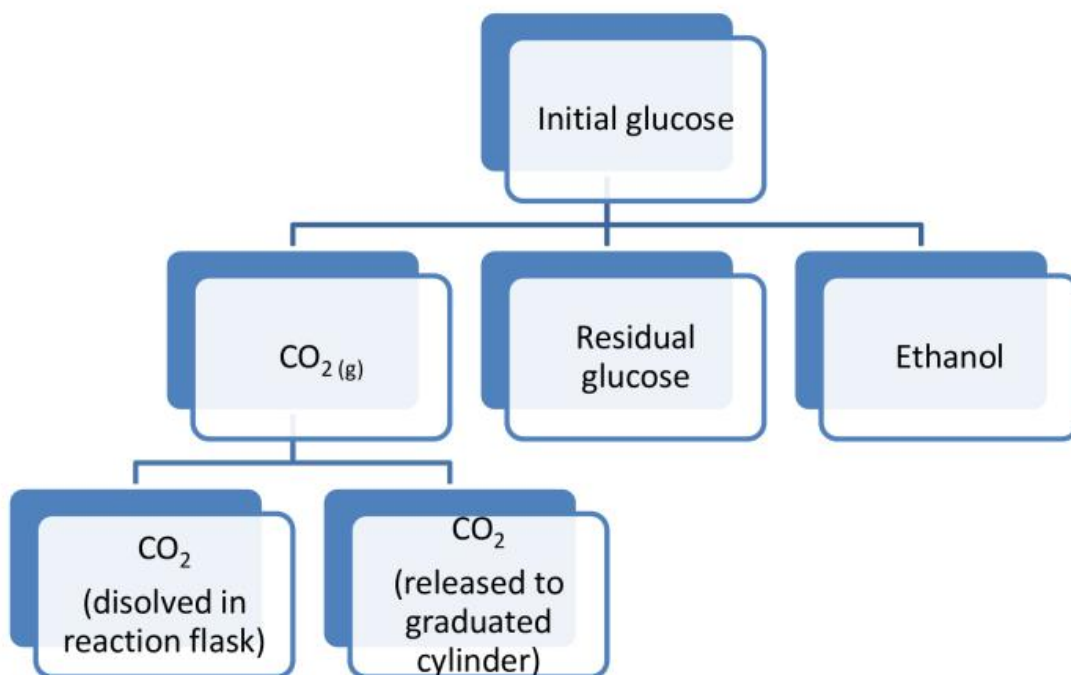

Figure 7
G.3. Draw a cross (X) on the curve of **GRAPH A** at t = 40 min of fermentation.
*The initial sample of glucose was partially metabolized after 40 min of fermentation. The glucose that is not metabolized remains in the reaction flask solution and is called "residual glucose". The metabolized glucose was transformed into gaseous product CO2 and ethanol. Most of gaseous product CO2 was transferred to the graduated cylinder through the latex tube. The remaining fraction of the gaseous product CO2 was dissolved in the reaction flask solution. **Figure 7** summarizes the process.*